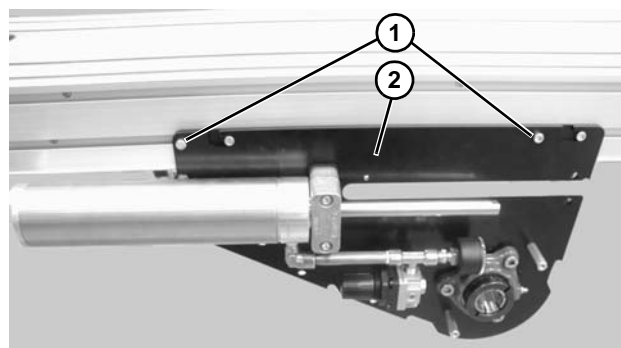

Figure 122
10. Remove screws (**Figure 122, item 1**) and pull side plate assembly (**Figure 122, item 2**) off conveyor.